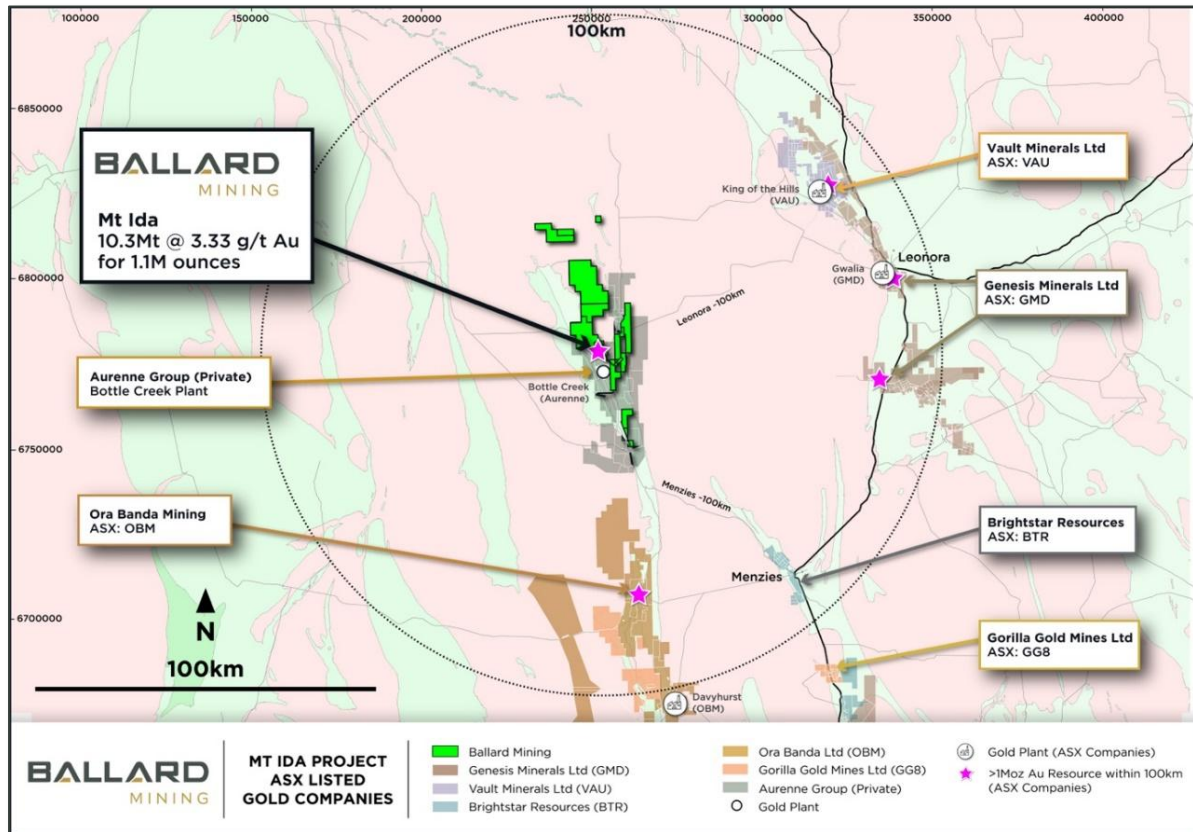
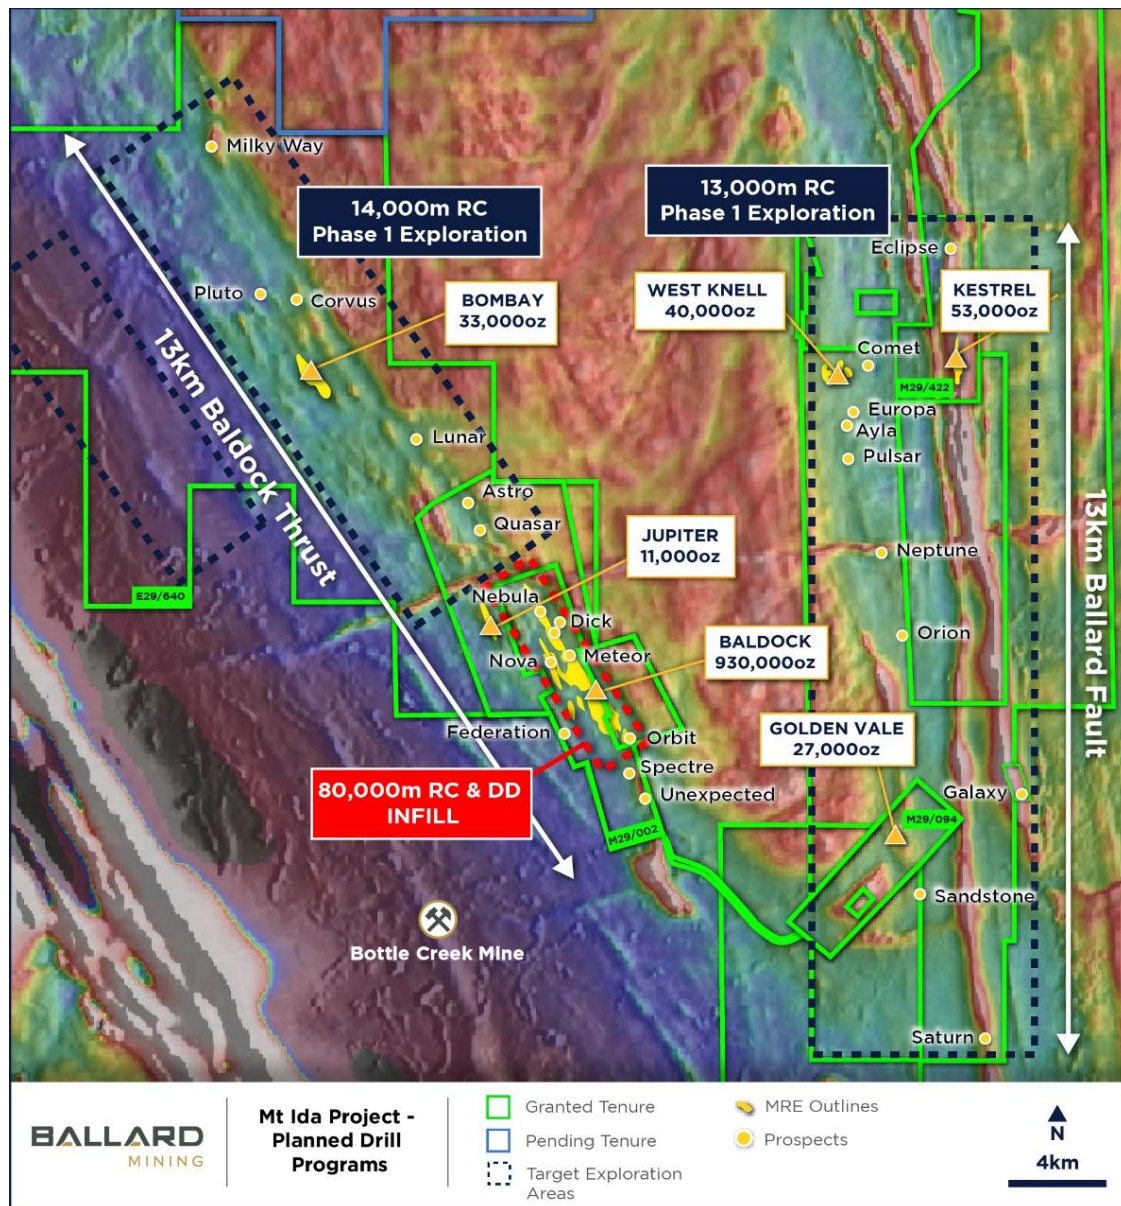

Figure 12 - Ballard's Mt Ida Gold Project, located in Western Australia's Goldfield Region
Figure 13 – Mt Ida identified Au prospects with planned Phase 1 Infill and Phase 1 exploration programs
**Ballard Mining (ASX:BM1) (“Ballard” or “the Company”)** is pleased to report additional assay results from its ongoing Resource Conversion (Infill) drilling program at the Baldock gold deposit, part of the Mt Ida Gold Project located 540km northeast of Perth in Western Australia’s Goldfields region (Figure 12). The Mt Ida Gold Project covers 26km of prospective greenstone belt, folded around the Copperfield Granite (Figure 13).
A ~130,000m drill program has been completed across the Project in CY2025, targeting an initial ~86,000 metres of Infill drilling at Baldock and ~40,000 metre regional exploration program. The regional exploration program is testing highly prospective and underexplored zones along the 26km strike of both the Baldock Thrust and the Ballard Fault (Figure 13).